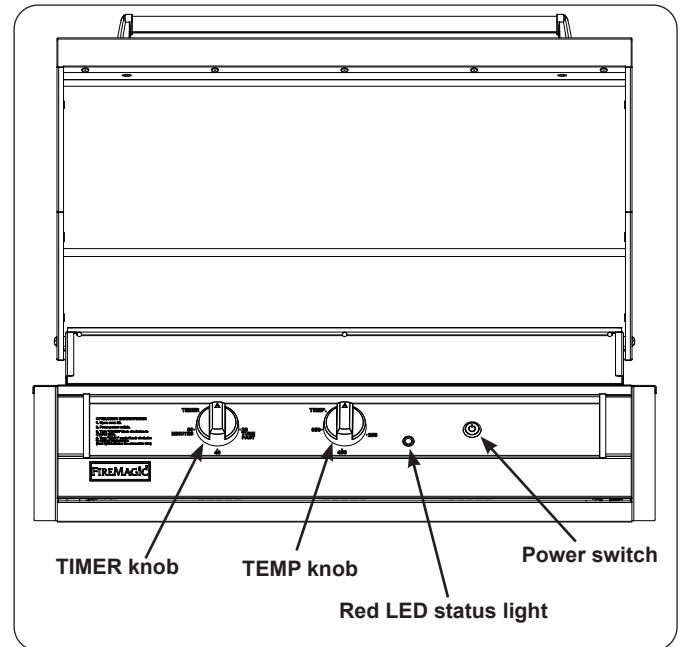
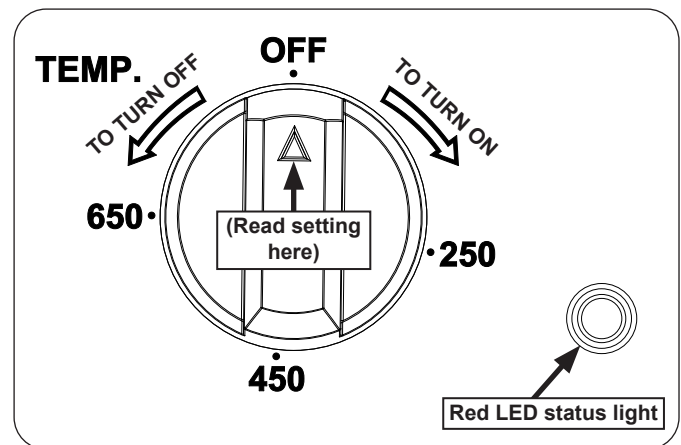

Fig. 33-1 Controls
Fig. 33-3 Temperature control
3. Press the power switch (see Fig. 33-1).
5. Turn the **TEMP** knob **clockwise** to the desired temperature. (The red LED status light indicates the heating elements are **ON**.) See Fig. 33-3.
To shut off the unit, turn the **TEMP** and **TIMER** knobs counterclockwise to the **OFF** position (see Fig. 33-3), THEN turn off the power switch.
For your convenience and safety, when the heating elements are on, the red LED status light will illuminate (see Fig. 33-1 and Fig. 33-3).